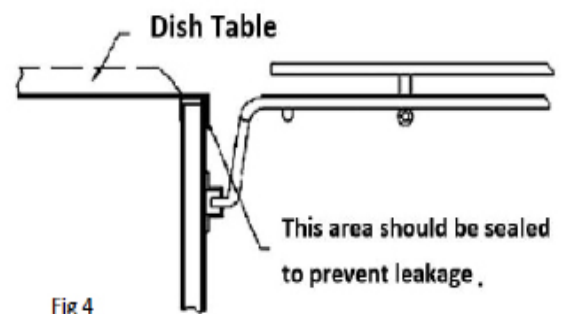

Fig 4
- The machine must be in a horizontal position to start connecting all water and electricity pipes, please adjust according to actual needs; stainless steel console should be lifted and buckled into the dishwasher (please refer to Figure 4), please apply appropriate sealant between stainless steel console and body lip to prevent leakage. Your local regulations may require you to install an exhaust hood or fan, and if so, the exhaust volume should not be less than 350 cubic meters per hour.